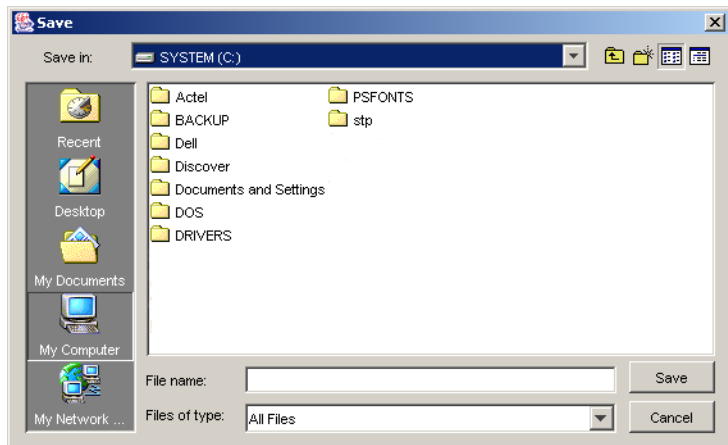

Figure 2-18. Save Dialog Box
1. **From the *File* menu, click *Save Log*.** The Save dialog box appears, as shown in Figure 2-18.